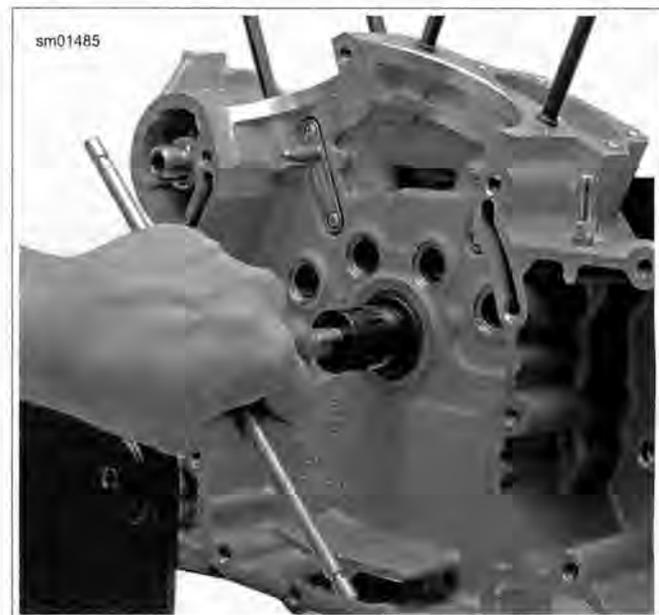

Figure 3-117. Line Reaming Pinion Shaft Bushing
2. See Figure 3-117. Install PINION SHAFT BUSHING REAMER PILOT (Part No. HD-94812-87) into right crankcase roller race. Insert PINION SHAFT BUSHING REAMER (Part No. HD-94812-1) through the pilot.